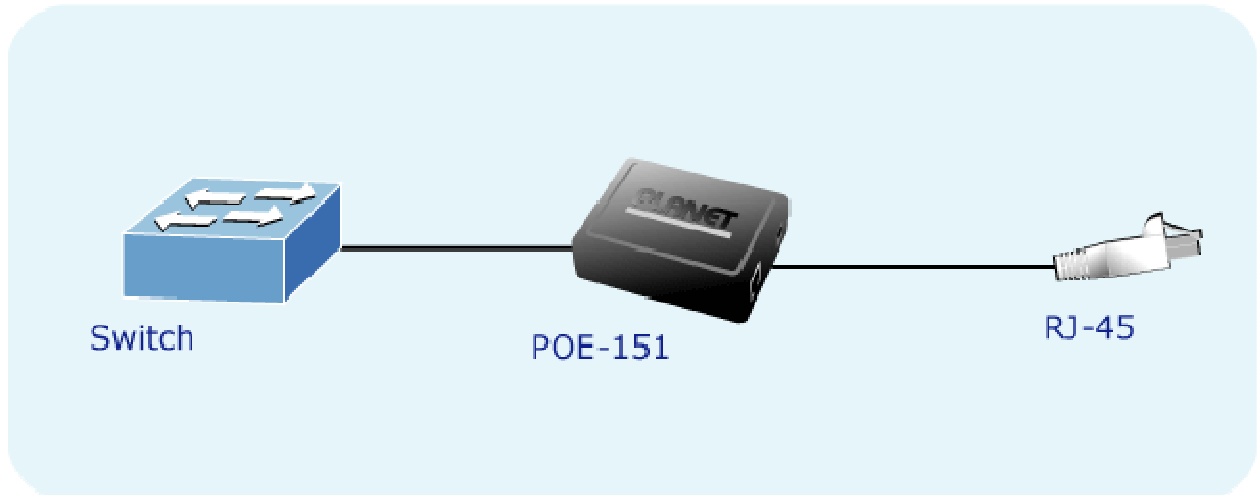

Figure 1: the Injector installation
2. Connect the long cable that will be used to connect to the remote device to the port “**Ethernet + DC**”. The screen in Figure 1 appears.